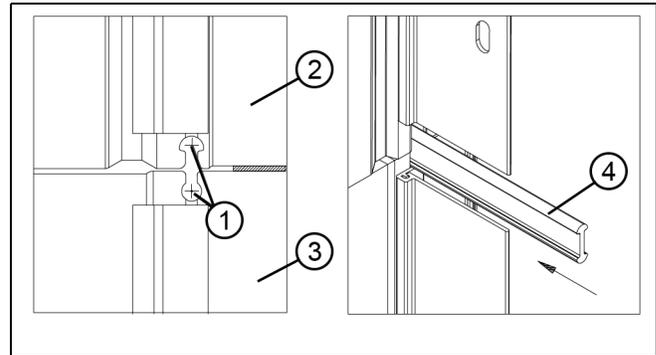

Figure 31
3. Drill out the outer edges of the nailing fin/drip cap kerf at the mullion with a 3/16" drill bit as shown in illustration 20. Clean filings from drilled area to ensure easy installation of the mull pin. Insert mull pin the full length of the mullion ensuring that it is recessed 1/4" to allow for sealant and horizontal mull pin application later. If necessary drive the mull pin with a hammer. See Figure 31.